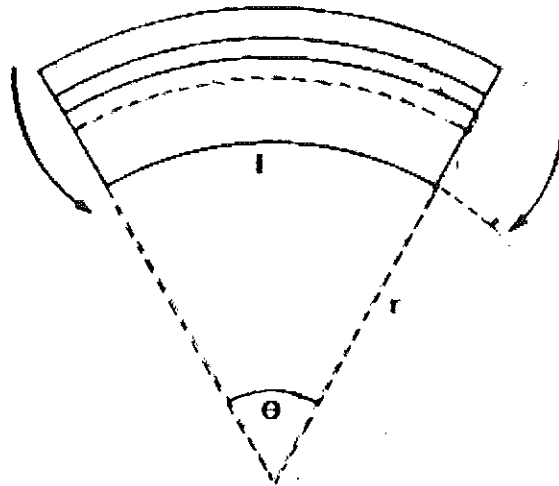

Figure 3
- (c) A fibre specimen of length "l", bent through an angle "θ" to a radius of curvature "r" is shown in the Figure 3.
- ii. With the aid of the Figure 3, show that the total internal couple generated in the cross section of a bent fibre "M" is